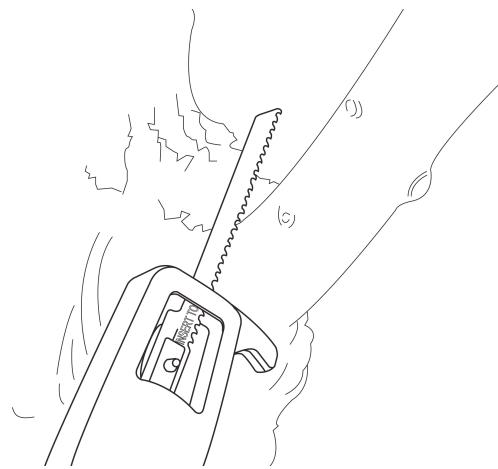

Figure-4
- Finally, place the blade on top of the branch with the teeth facing down and cut the limb through to the undercut made in the previous step. See Figure-4. As the blade approaches cutting through, relax pressure on the saw to help ensure a clean cut.